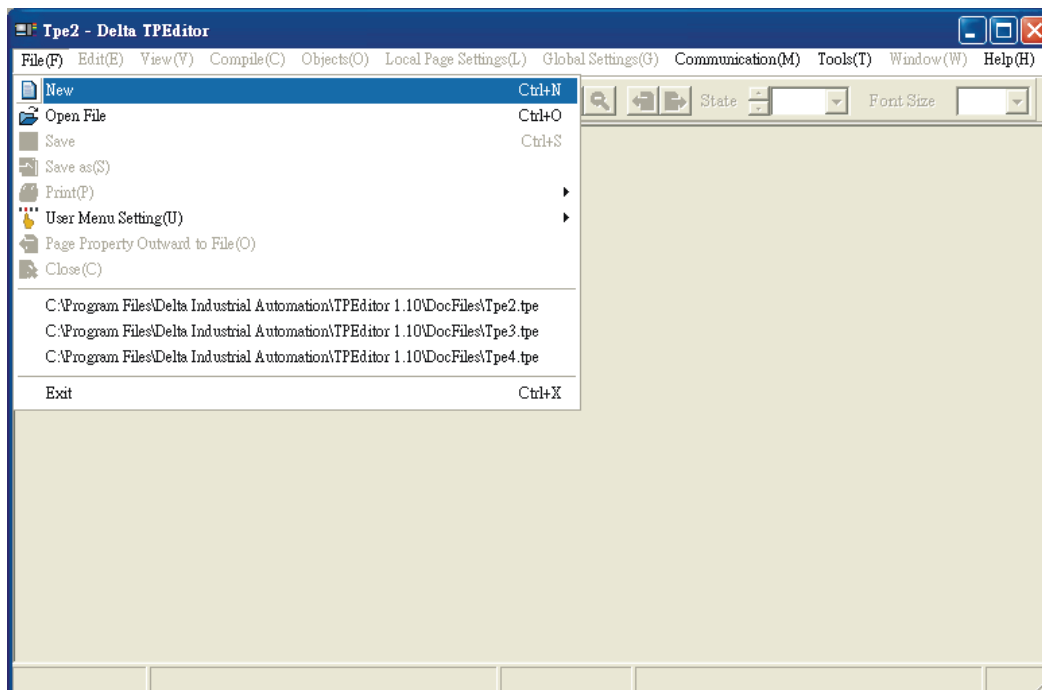

Figure 3-7
Step 1. Open TPEditor software program to click  or select **File (F) > New** to create a new file (Figure 3-7).